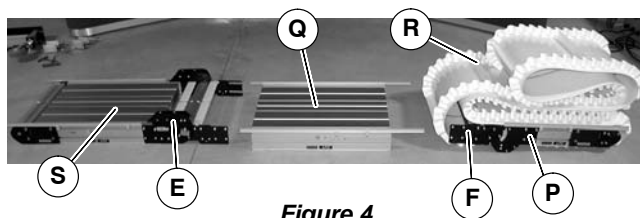

Figure 4
1. Locate components (see Figure 4).